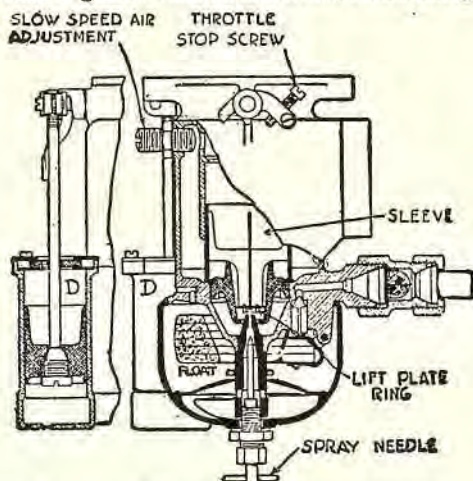

Fig. 15. Adjusting old-style Johnson carburetor.
There are three stages of vacuum: one is the space between the throttle and strangle tube; the second, in the strangle tube itself; the third, in the space below the plate on the bottom of the air-valve sleeve. By removing the location of the idling adjustment (in Fig. 15) the gasoline flow (for idling) is brought in a zone of greater vacuum and hence better idling.
Many mechanics can adjust this carburetor for high speeds, but sometimes find difficulty in adjusting for low speeds or idling. The correct procedure of adjustment is as follows: (1) retard spark; (2) close the slow-speed air-adjustment screw (Fig. 15); (3) warm engine; (4) see that the intake pipe manifold, where it connects to the carburetor flange, does not leak air; (sometimes a water-jacketed intake manifold will become "air-locked" and water will not circulate, depriving it of heat; open "plug"); (5) accelerate the engine by opening and closing the throttle rapidly; if the mixture is too rich, acceleration will be sluggish; if too lean, it will "pop back" considerably; the spray needle adjustment should be set between these two points; (6) retard the spark and close the hand throttle; adjust the throttle stop screw until the engine runs very slowly, regardless of whether it operates evenly or not; (7) open the slow-speed air adjustment until the engine idles evenly, if possible; if it runs too fast, close down the throttle stop-screw; the adjustments on the stop-screw and the low-speed screw should be made simultaneously; (8) it may be found that the low-speed air adjustment cannot be opened at all; in this case the low-speed mixture is too lean; possibly the low-speed air adjustment can be opened more than $3\frac{1}{2}$ turns, when the mixture is too rich; do not touch the spray-needle setting, but proceed as follows:
Disassemble the carburetor: A small ring, shown in Fig. 15, is attached by two lugs to what is known as the lift plate. This ring is somewhat curved, and if the slow-speed air adjustment can be opened more than $3\frac{1}{2}$ turns without obtaining good idling, the curve is excessive and the ring should be slightly flattened. If on the other hand the air adjustment cannot be opened, the ring is too flat and should be slightly curved. The standard setting is $3/32"$ from the edge of the ring to the lift plate to which it is attached.